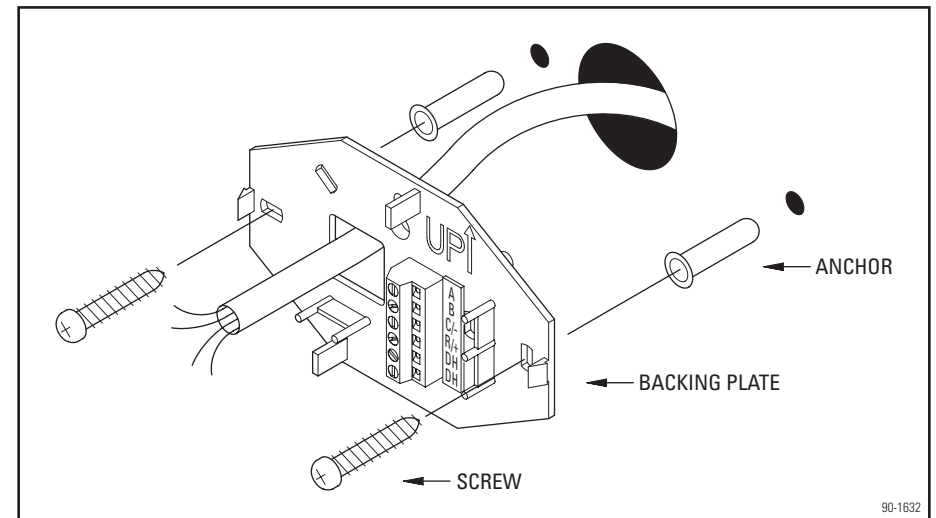

Figure 3. Mount Backing Plate
2. Drill two 3/16" mounting holes and a 3/4" wire access hole. See **Figure 3**.